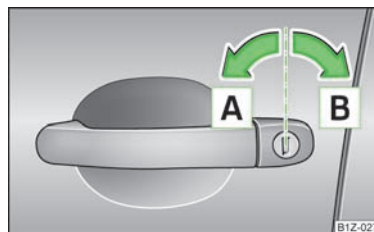

Fig. 11
- Turn the key in the locking cylinder of the driver's door in the direction of travel (unlock position) **A** » Fig. 11.
- › Turn the key in the locking cylinder of the driver's door in the opposite direction of travel (lock position) **B** » Fig. 11.